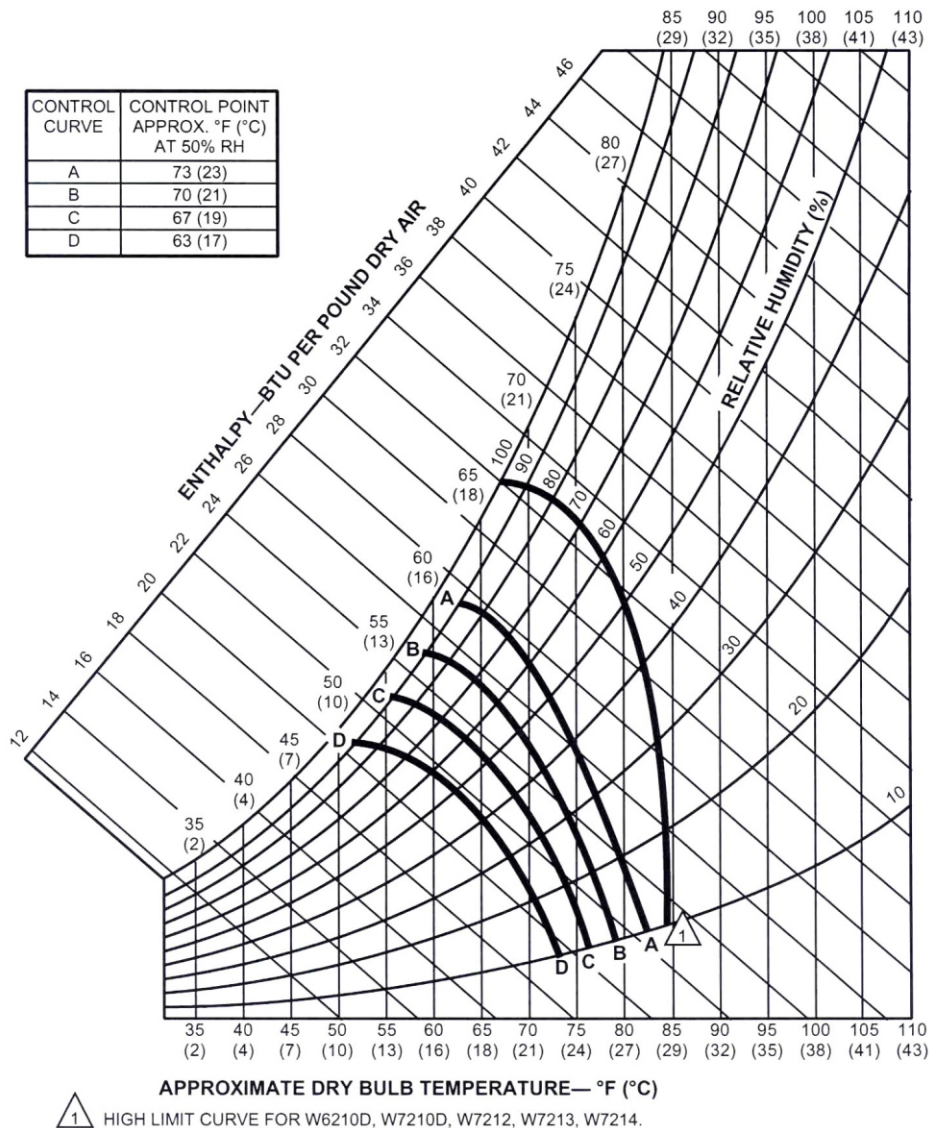

Figure 6
8. Set the outdoor air enthalpy change overpoint. **Refer to Figure 6** and the instructions on **Page 4**.
The enthalpy control senses both temperature and humidity or the heat content of the outside air. It controls the amount of outdoor air brought into the system. When the heat content of the outside air is below control setpoint, the control modulates outdoor dampers to meet cooling needs of the building. When the heat content rises above control setpoint, the control closes outdoor dampers to minimum position. The recommended setpoint is "A". If Economizer is allowing air which is too warm or too humid to enter the system, control may be changed to a lower setpoint (B, C, or D). **Refer to Figure 6.**